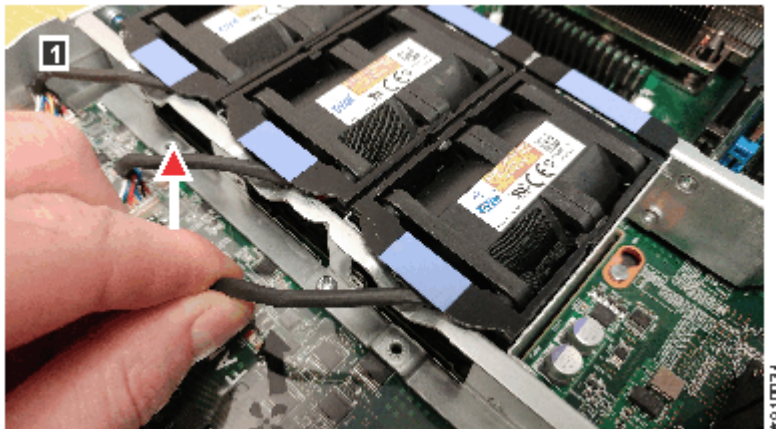

Figure 45. Removing the fan cable
6. Carefully disconnect the fan cable from the system board of the node canister, as shown in Figure 45 on page 83.